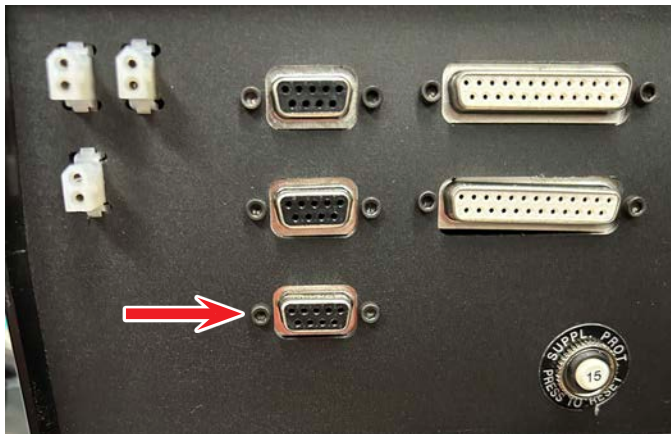

FIGURE 23—Back panel of the Acorn CNC Control unit.
1. Plug your Tool Setter/Touch Probe cable (P/N 87837) into the bottom DB9 port on the back of the control (see Figure 23).